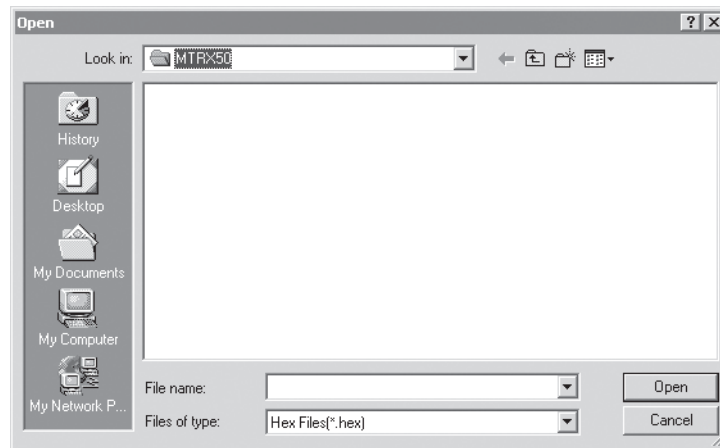

Figure 5-3 — Open window
4. Click the mouse on *Tools > Update Firmware*. An open file window (figure 5-3) appears.